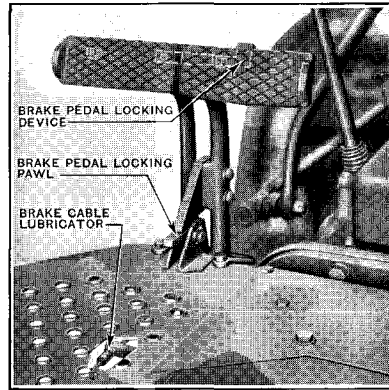

Figure 8
8. Do not run the tractor downhill with the gears in neutral or with the clutch released. Engage either first or second gear and use the governor or throttle lever to control the speed of the engine. To bring the tractor to a complete stop, declutch and apply the hand brake. It is good practice to lift the pawl from the ratchet when pulling “on” the handbrake as this saves wear on these parts. When the footbrake pedals are fitted the tractor wheels may be locked by first engaging the latch which locks both pedals together and then pressing down the pedals to apply the brakes. When firmly applied, engage the pawl which will then enter one of the serrations of the sector (see also page 20 and Fig. 8).